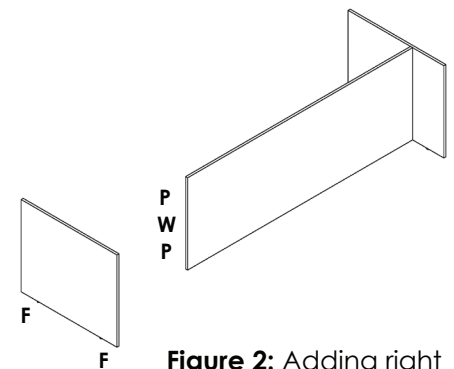

Figure 2: Adding right side to modesty
Step 3: Attach the right-side laminate piece to the modesty laminate piece (figure 2).